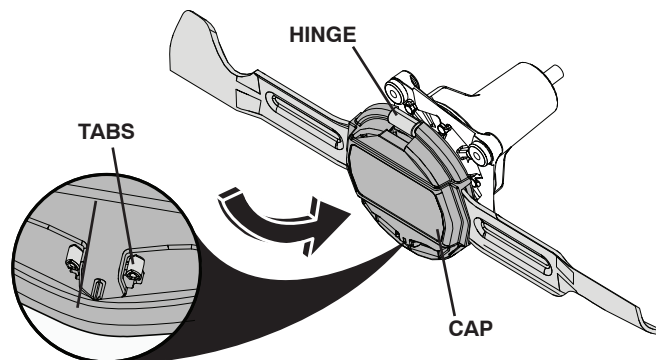

Fig. 21
- Reinstall cap. Hook cap onto hinge and rotate onto tabs. Press cap firmly into place, ensuring both tabs lock into cap. (See Fig. 21.)